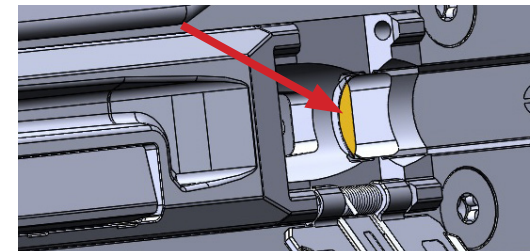
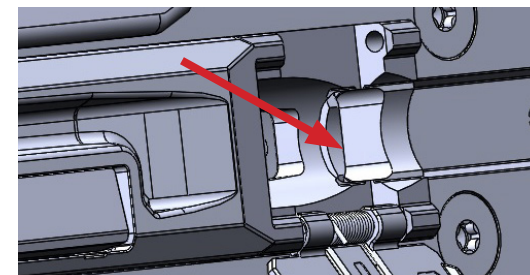

Fig. c-2
Fig. c-3
2. Press down and slowly pull back part way on the charging handle, observing the chamber check window as you do so. As the bolt face comes back, it will either be pulling a cartridge with it, indicating the chamber is loaded (Fig. c-2), or it will have nothing (Fig. c-3), indicating an empty chamber.